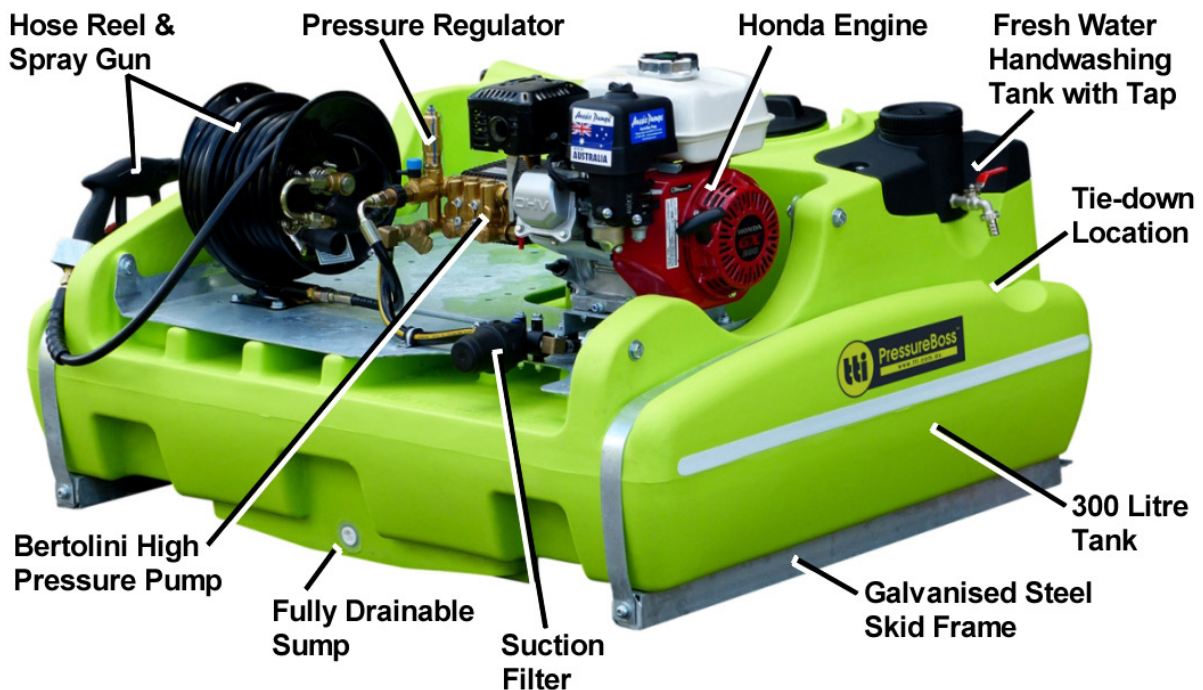

Figure 1 – PressureBoss Component Identification
The PressureBoss has the following features, refer to Figure 1.
6. Position your PressureBoss unit onto the vehicle and mount securely, either using tie-down straps located into the tie-down recesses on both sides of the tank, refer to Figure 1. The tie-down straps must be rated to at least the total mass of the unit when filled with fluid. Alternatively, the integrated steel tank frame may be bolted to the vehicle.